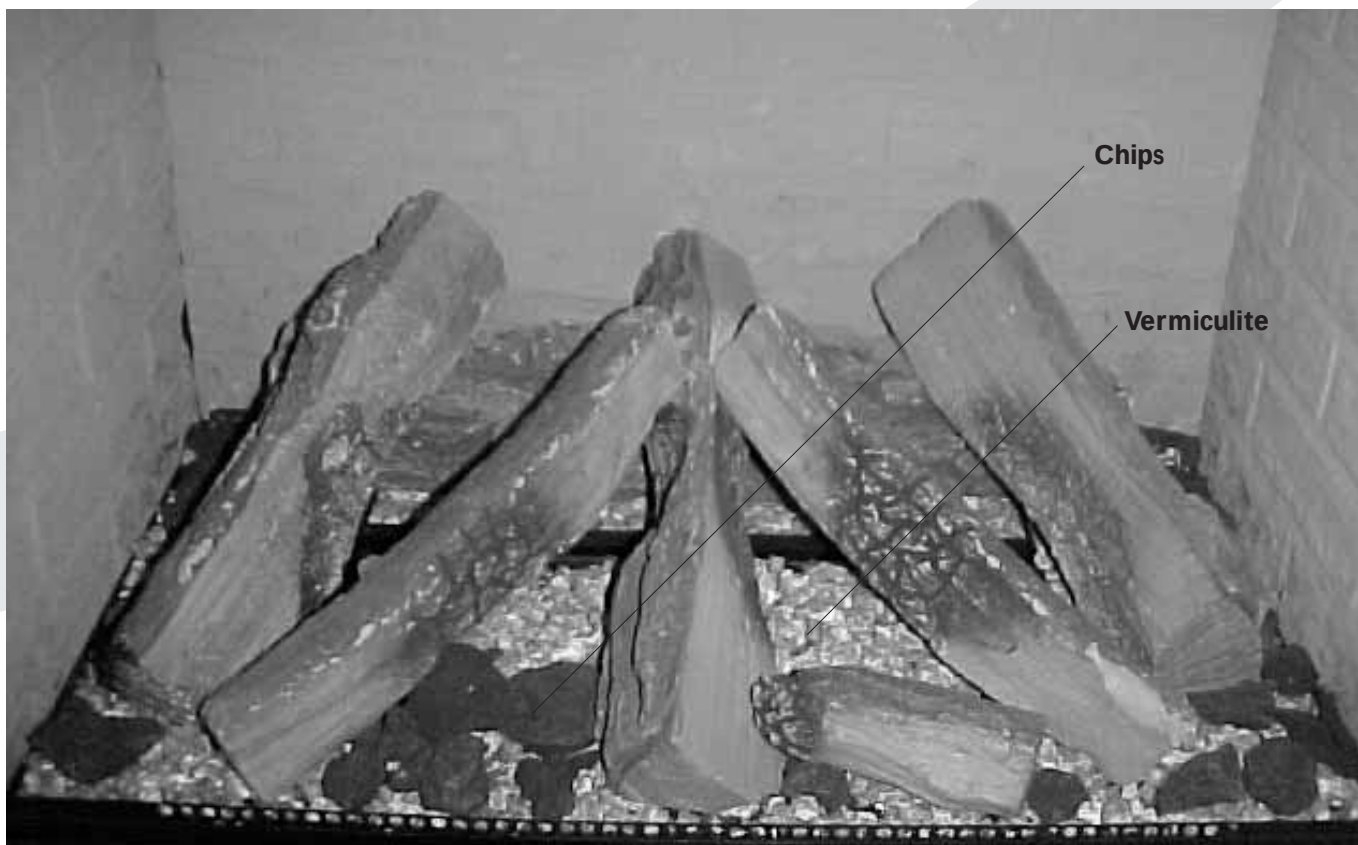

fig. 7
- Lay the large log against the back wall, as indicated in fig. 7.
- Now lay the rest of the logs in place as illustrated in fig. 7.